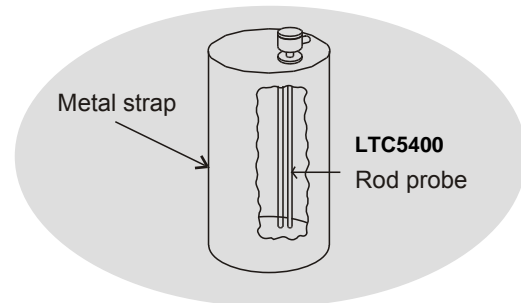
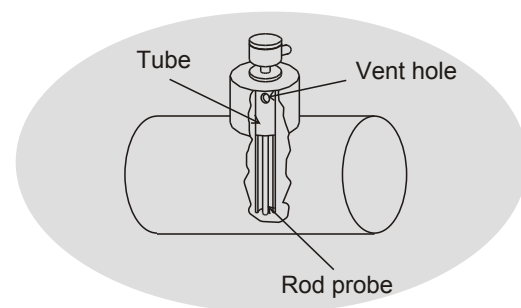

Fig. 1
Fig. 2
1. Please choose Two Rod Probe type for non conductive tank (Fig.1), or install a concentric circles metal pipe shield with vent hole at the top outside the probe (Fig. 2)
3. If the container is irregular-shaped, such as a cylindrical , and the medium is liquid with low viscosity, the rod should be placed inside a concentric circles metal pipe shield with vent hole at the top.(Fig. 2)